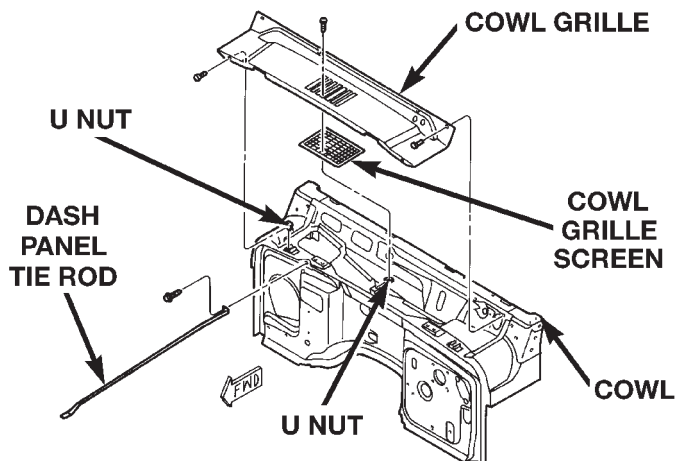

Fig. 5 Cowl Grille And Screen
- (1) Open the hood and remove the screws that attach the cowl grille and screen to the cowl (Fig. 5).
- (2) Remove the grille and screen from the cowl.